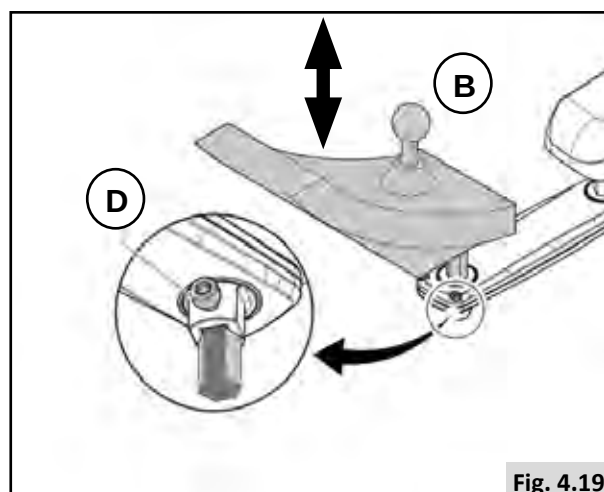

Fig. 4.19
Pre-setting height of the controller (2) , (Fig. 4.19)
1. Loosen (D).
2. Slide (B) into desired position.
3. Tighten (D).